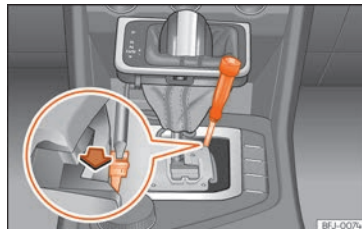

Fig. 55 Selector lever: manual release from position P.
- Using a screwdriver, press and hold the yellow unlocking tab sideways » » » Fig. 55.